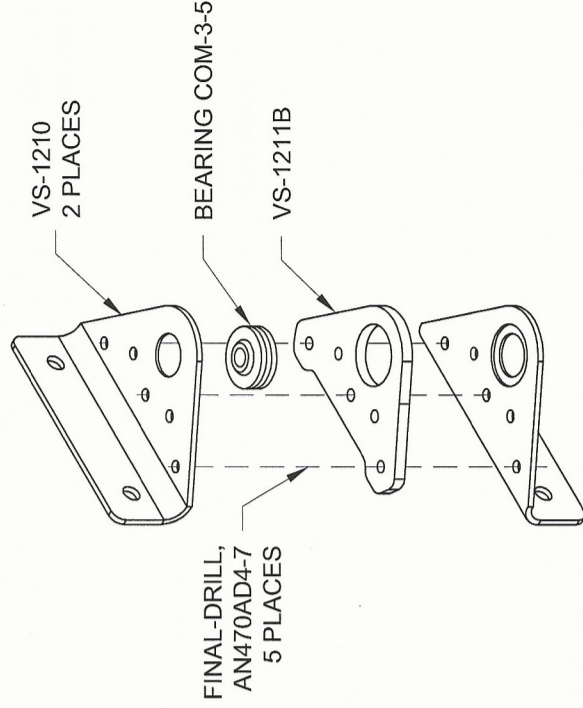

FIGURE 5:
Step 10: Insert the called out bearing into the largest hole in the VS-1211B Hinge Spacer. Re-cleco, then rivet the hinge spacer between the two VS-1210 Hinge Brackets in the same position as drilled per call-outs in Figure 5.